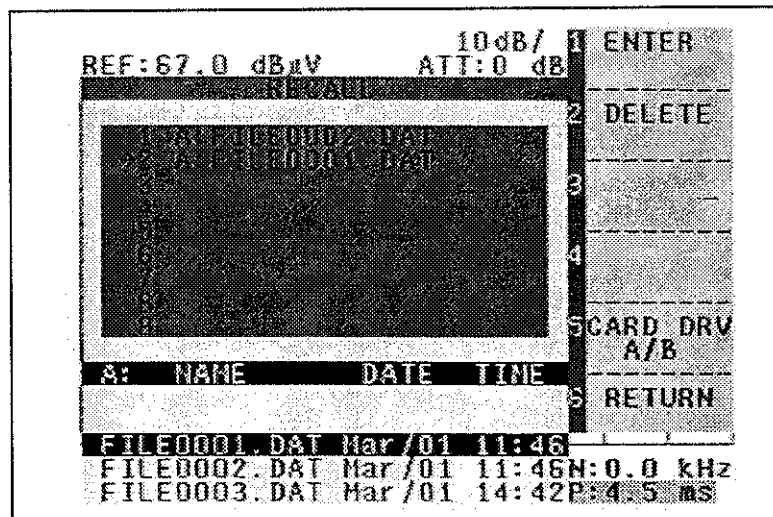

Figure 5-28 RECALL DEFINE menu screen
④ Push  to recall the selected file setting conditions.
① Press  ,  , in order and the screen shown in Figure 5-28 will appear.
② Specify a register number with the   keys and a file of memory card with the knob  , and then press  to setup the file in the register number.
③ Press  , ten key (setup register number 1 to 9) in order and the assigned file setting conditions will be recalled.